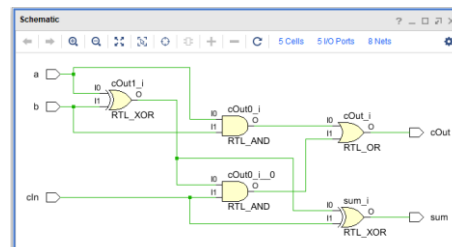

Figure 10. Schematic of Adder1: 1-bit Adder
- d. In the *Flow Navigator* pane, click the *Open Elaborated Design* entry under the *RTL ANALYSIS* to perform RTL (Register-Transfer Level) analysis on the source file. Click the *Schematic* to see a logic view of the design as shown in Figure 10.